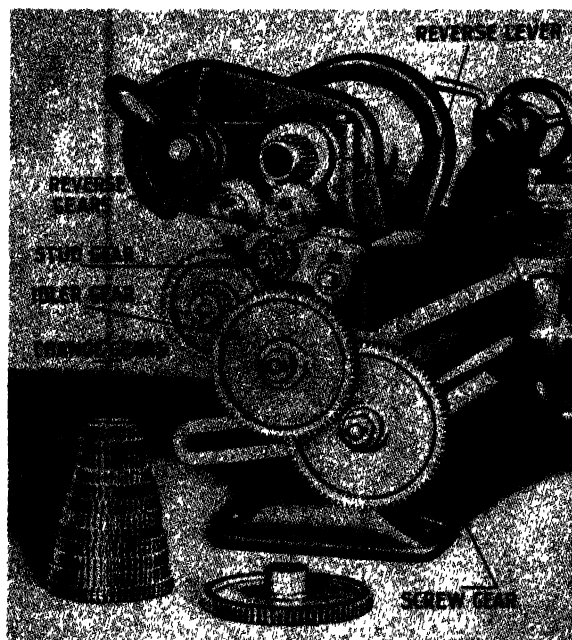

Fig. 10-1. A standard change gear bench lathe. (South Bend Lathe Works)
**Bench Lathes.** Figure 10-1 illustrates a standard change gear bench lathe with power longitudinal feeds and power cross feeds. This lathe has a set of independent change gears which are used to connect the headstock spindle with the lead screw for cutting various pitches of screw threads and for obtaining a series of power longitudinal feeds for turning. The cross feed may also be operated automatically through a friction clutch and a series of gears in the apron.